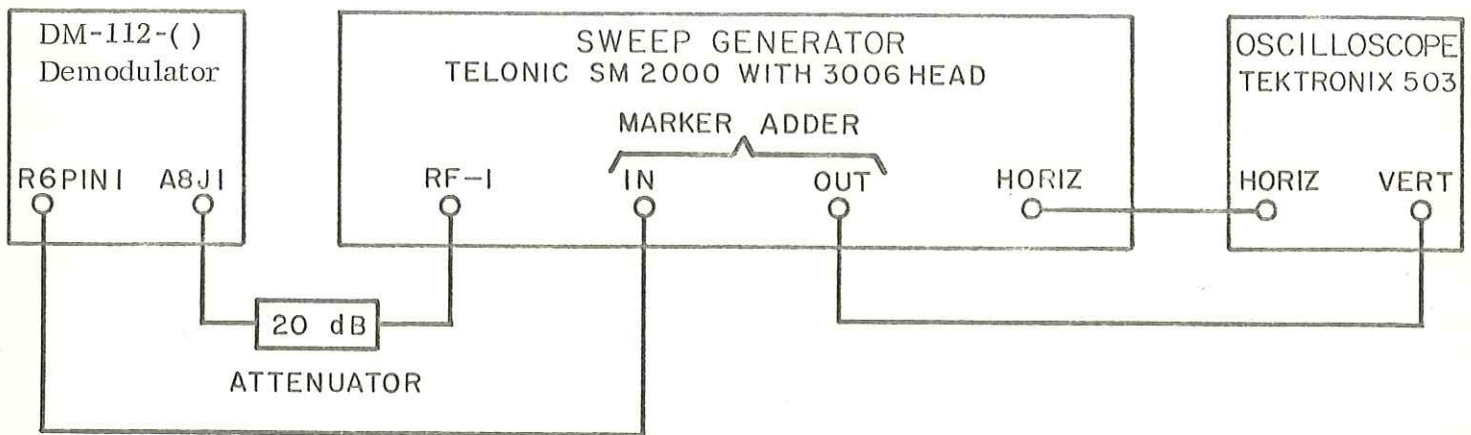

Figure 4-12. Test Setup, 21.4 MHz
- (1) Connect the equipment as shown in Figure 4-12.